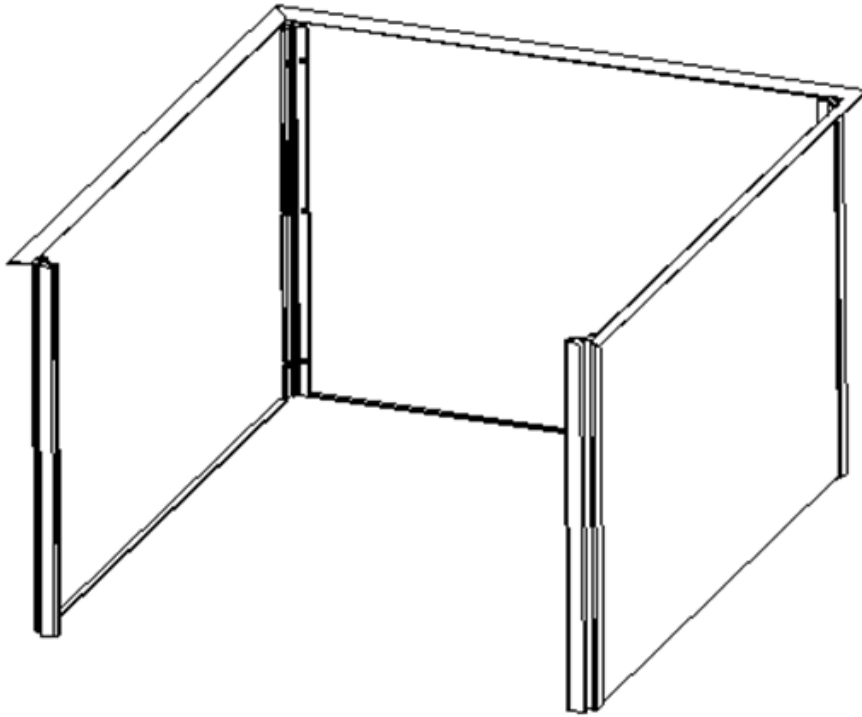

Fig. 5
5. Same installation for outside panel ,use 18 pcs M3 sink screw to fix 3 outside panels and 3 outside slides (Fig. 5).